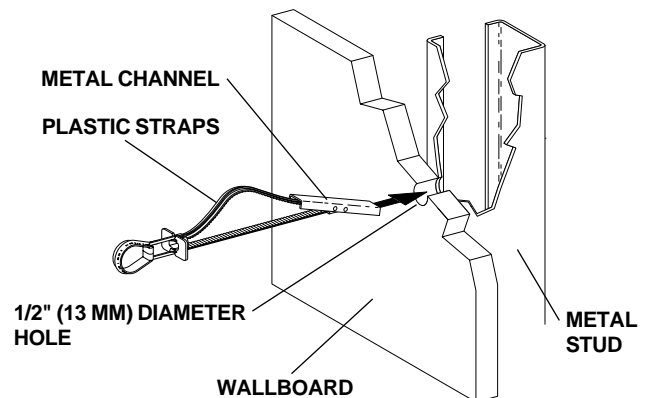

FIGURE 4
13. Fold the metal channel of the toggle bolt anchor flat against the plastic straps (see *Figure 4*).